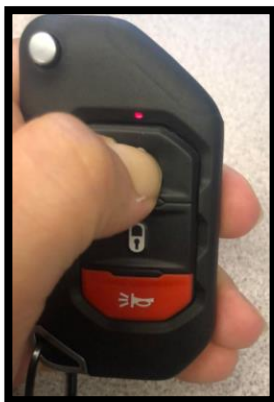

Figure 1
- 1) Verify if the FOB is a JL or JT flip key fob: the only kind of key fob supplied with these vehicles is shown in Figure 1 and 2. If the fob is of a different shape, it is not a JL or JT fob.